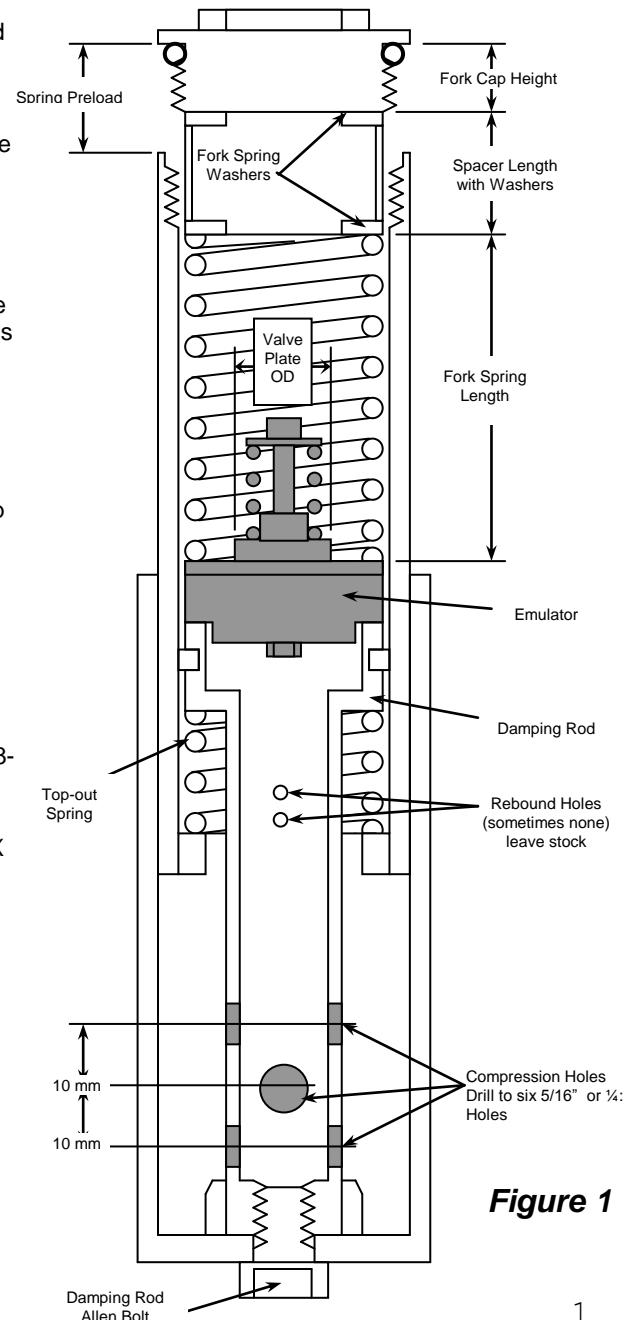
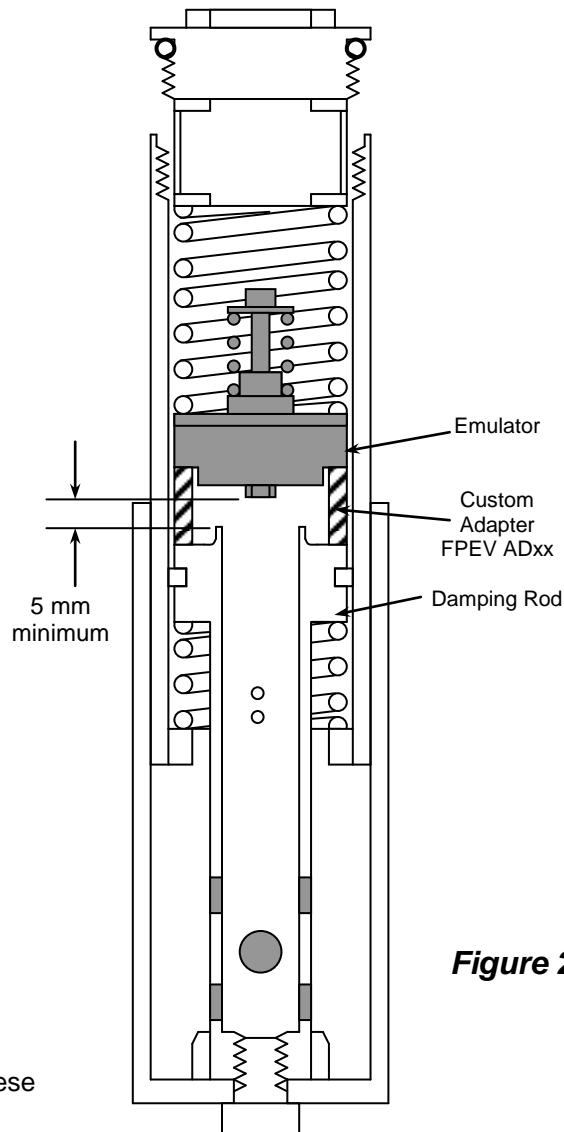

Figure 1
Figure 2
2 Check the fit of the Gold Valve Emulator by placing it on top of the damping rod. The step on the Emulator must sit into the large hole in the top of the damping rod and must completely cover it so there is no blow-by (figure 1).
- b) Check the inner diameter of the fork spring. It must be at least 4 mm (0.160") larger than the Emulator Valve Plate OD itself for proper flow (figure 1).
3 Drill the existing compression holes in the damping rod to 5/16 inch (8 mm) and add additional 5/16" holes so you end up with six holes (3 sets of 2 holes) (figure 1). When drilling new holes, space them axially (lengthwise) at 10 mm (7/16") increments. Each set of two holes must be perpendicular to the last set so as not to weaken the rod (figure 1). After drilling, chamfer and deburr the compression holes, inside and out. Do not add or enlarge the rebound holes and leave their edges sharp if any exist. Smaller Damping rods found in 31-35mm Vintage forks can use 1/4" (6mm) holes due to their small size.
- a. Drop the Emulator down the tube. It sits on top of the damping rod with the Emulator Valve Spring facing up and is held in place with the main fork spring. Refer to figure 1. Visually check to make sure the Emulator is sitting squarely on top of the damping rod or the adapter. If you have flat-top or protruding style damping rods it requires the FPEV AD series adapters (figure 2) and they should be installed first, before the Emulator.
- c. Set the fork cap on the washer and determine the preload by measuring from the top of the fork tube to the sealing lip on the fork cap (see figure 1). This is a direct measurement of fork spring preload. Shorten the spring spacer tube to achieve the proper preload; 10-25mm based on sag and rider preference.
Adapter Height – The adapter must be tall enough to allow 5 mm (0.200") clearance between the top of the hole in the damping rod and the bottom of the jam nut on the Emulator. (Figure 2) Pre-made Emulator Spacers are available: FPEV AD 3003 standard style, FPEV AD3004 custom style center